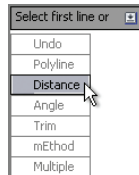

FIGURE 2.28
4. Press the down-arrow key three more times, and press Enter to select the Distance option in the Dynamic Input display (see Figure 2.28). Type **1'** (or **30** for metric), and press Enter twice to input equal first and second distances which are 1' (or 30 for metric) each.